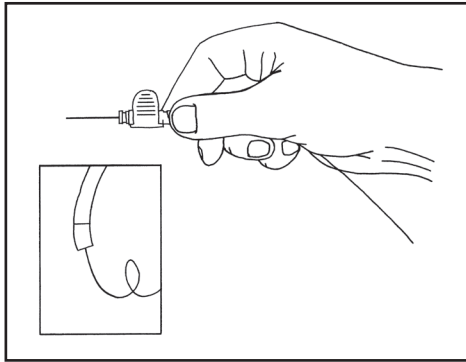

Figure 2.
Step 1. Using the wireClip™ Torquer, rotate the guidewire one-half turn clockwise (Reference Figure 2).